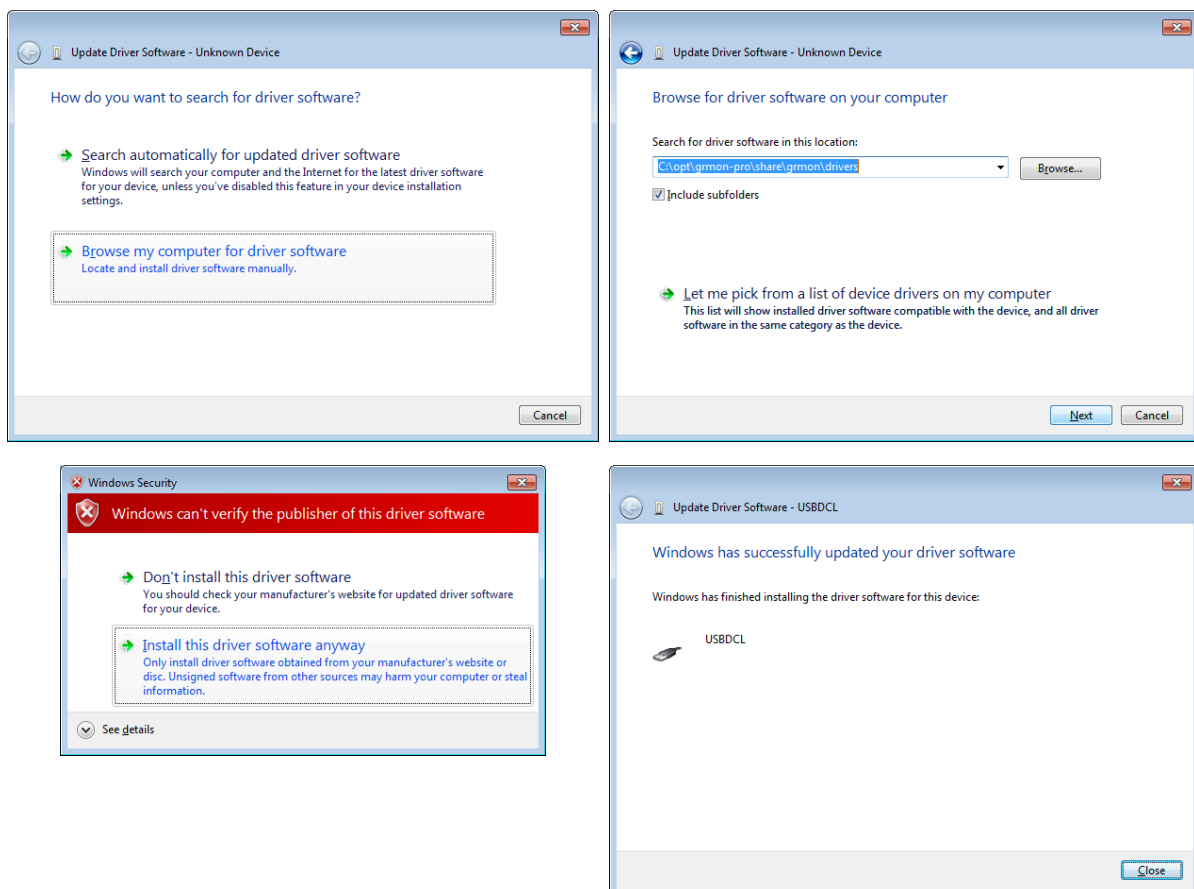

Figure 5.5.
3. In the dialog that open, the first image in Figure 5.5, choose '**Browse my computer for driver software**'.
5. A warning dialog might pop-up, like the third image in Figure 5.5. Press '**Install this driver software anyway**' if it shows up.